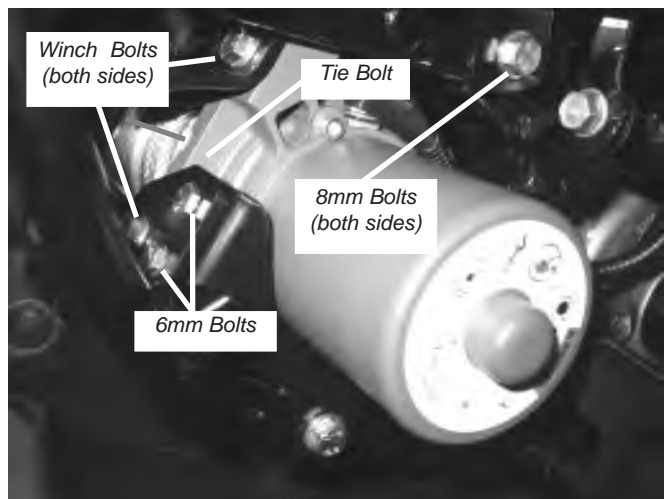

Figure 18 Winch and Mount Bolts
18. Tighten the four winch bolts to a recommended torque of 17 N-m (12 ft-lb), figure 18. Remove the small tie bolt. This bolt should be retained for winch service. Reinstall the two 6mm bolts removed in step 4. Tighten the six 8mm bumper bolts, and the four 6mm bolts to a recommended torque of: